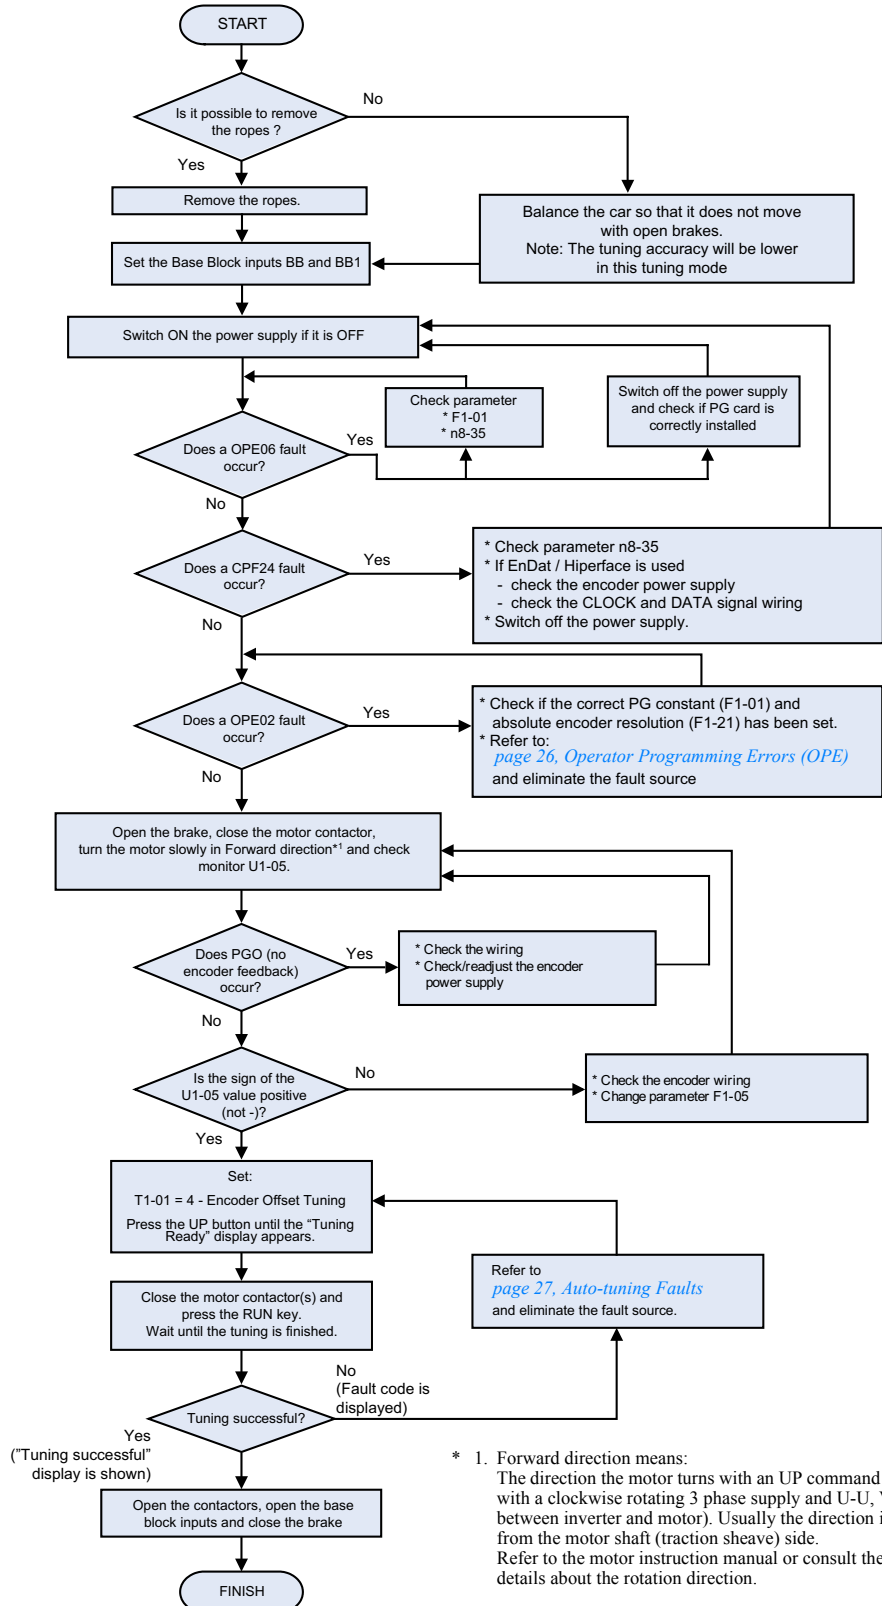

Fig 8 Encoder Offset Autotuning
*Fig 8* shows the autotuning procedure for an encoder offset tuning. The procedure should be performed if the encoder has been changed or has not been aligned correctly. Before tuning make sure that PM closed loop vector control is selected (A1-02 = 6) and that the E1-□□ and E5-□□ parameters are set up correctly.